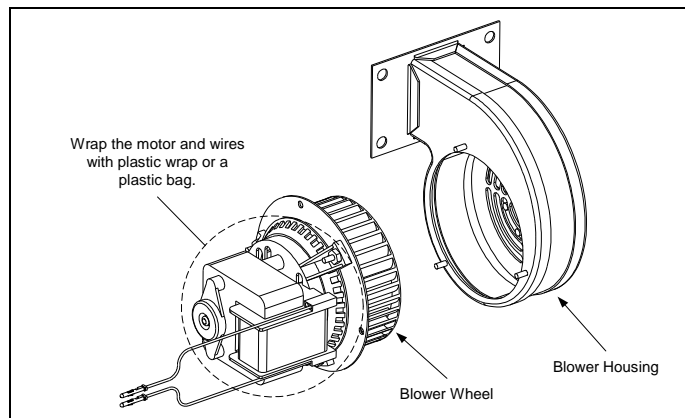

Figure 3
3. Wrap the motor with plastic wrap to prevent water from entering it. Spray degreaser or detergent on the blower wheel and the blower housing. Allow it to soak for five minutes. Rinse the wheel and housing with hot tap water, then dry with a clean cloth. (See Figure 3)